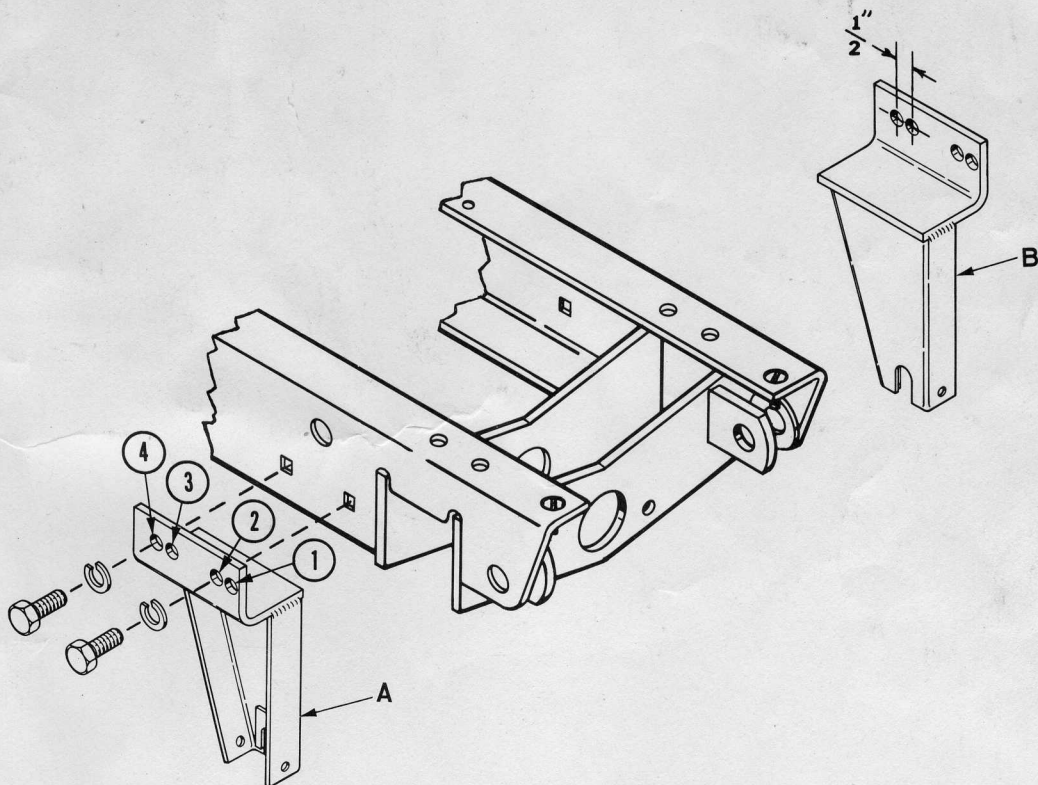

Figure 1. 442 and 444 Mounting Brackets
To obtain front and rear wheel clearance on the 442 and 444 tractor, use the first (1) and third (3) holes from the front side of the hanger brackets when installing a G46 mower. When mounting a G44 mower, use the second (2) and fourth (4) holes from the front of the brackets as illustrated in Figure 1.